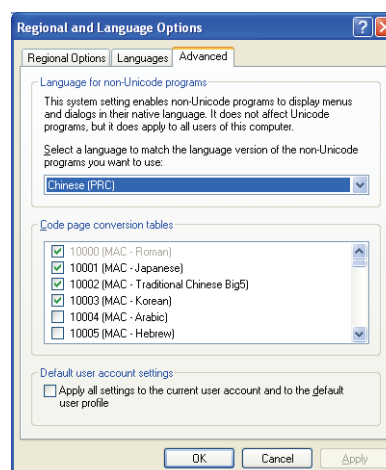

Figure 4.27. Advanced Regional and Language Options dialog box
4. Click the **Advanced** tab (Figure 4.27). Select the language “Chinese (PRC).” Click **OK**. The systems prompts to restart the computer.